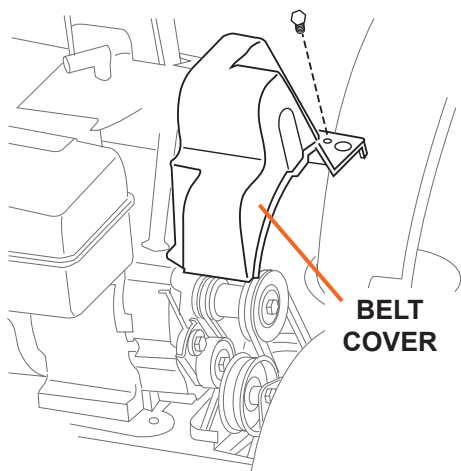

Figure 22
1. Remove the belt cover on the front of the engine by removing the two self-tapping screws (see Figure 22). Drain the gasoline from the snow blower, or place a container to catch leakage from the gas cap.